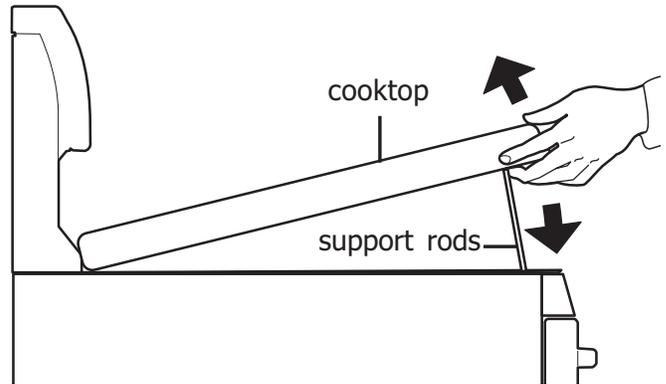

Figure 14: Lifting cooktop
1. Grasp the sides and lift from the front (See Figure 14). Lift-up rods will support the top in a raised position. Only lift the cook top far enough to allow the support rods to snap into place.